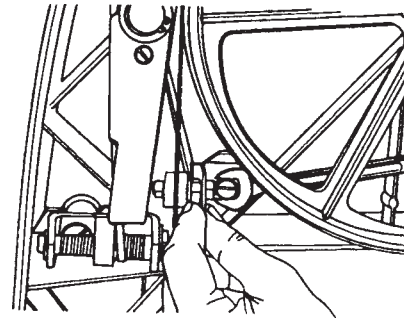

Fig. A-4
1. If the blade appears off center, loosen the 1/2" mounting bolt (59) that holds the bracket (57) to the Bandsaw frame, as shown in Fig. A-4.